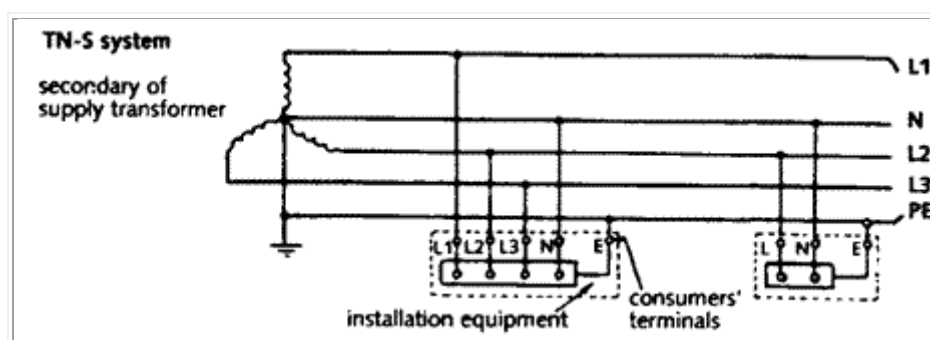

Fig.3 - TN-S earthing system
This is probably the most usual earthing system in the world, with the Electricity Supply Company providing an earth terminal at the incoming mains position. This earth terminal is connected by the supply protective conductor (PE) back to the star point (neutral) of the secondary winding of the supply transformer, which is also connected at that point to an earth electrode. The earth conductor usually takes the form of the armour and sheath (if applicable) of the underground supply cable. The system is shown diagrammatically in {Fig.3}.